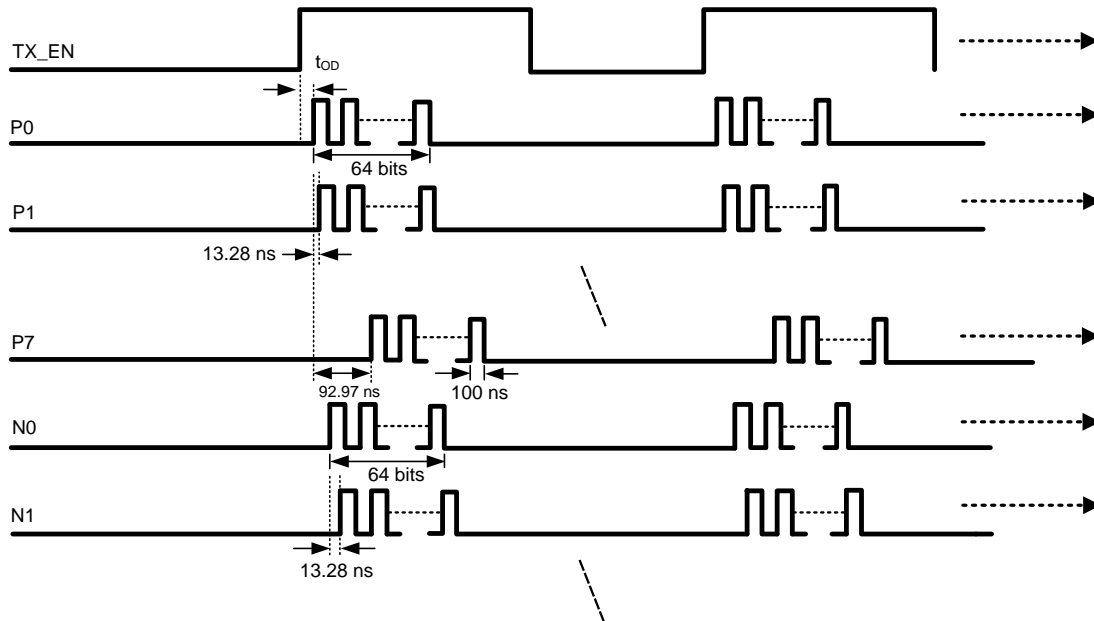

Figure 18. Beamformer Output with Example 1A Parameters
- After firing is complete for all channels, "TX\_EN" is pulled low, as the beamformer waits for the next firing signal, i.e., when "TX\_EN" is pulled high. See Figure 18 for firing diagram.